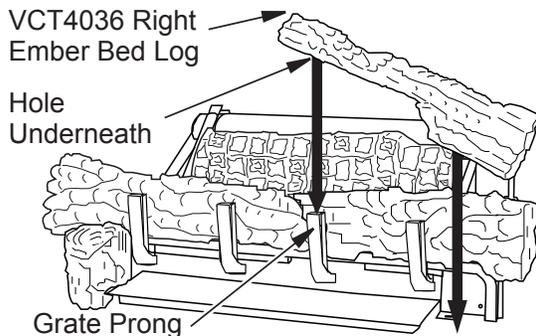

Figure 31 - Installing Right Ember Bed Log
- The VCT4032 and VCT4036 use two different right ember bed logs. The VCT4032 right ember bed log is installed in the same manner as the log in step 3 above but on the right side. The VCT4036 right ember bed log has a hole in the bottom that sets on the grate finger and the other end rest on the fireplace floor, place log as shown in **Figure 31**. The back side of this log needs to rest against the front of the base assembly, make sure the flame from the ember pan does not touch the ember bed log.